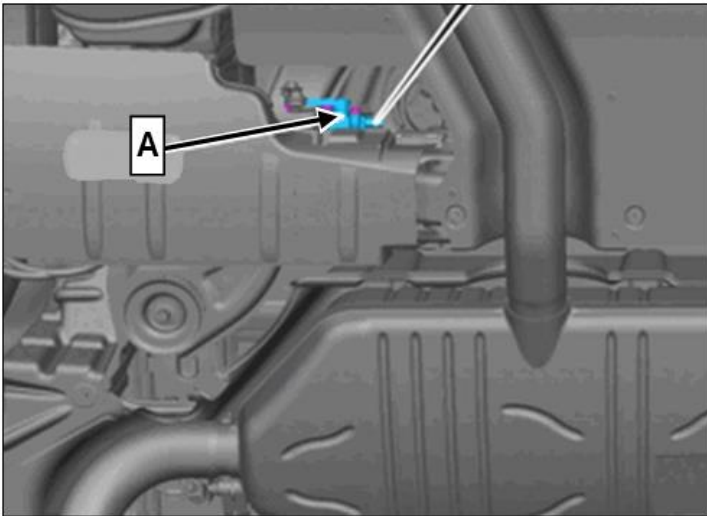

Figure 1
2. Check installation position of link rod of right rear axle level sensor (**A, figure 1**).